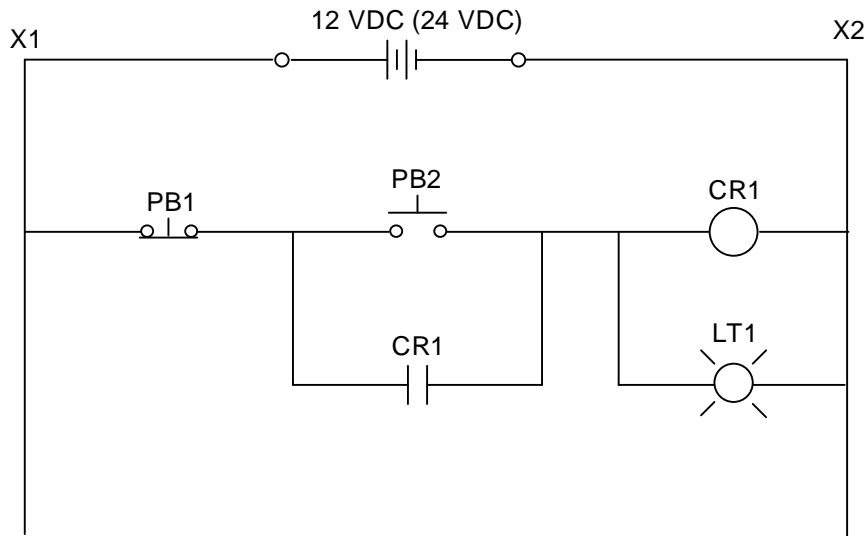

Fig. 2-47 Two Pushbutton Circuit
2.1-6 Describe observations when PB 2 is pushed and PB 1 is not pushed in Fig. 2-47. What happens when PB 1 is then pushed?